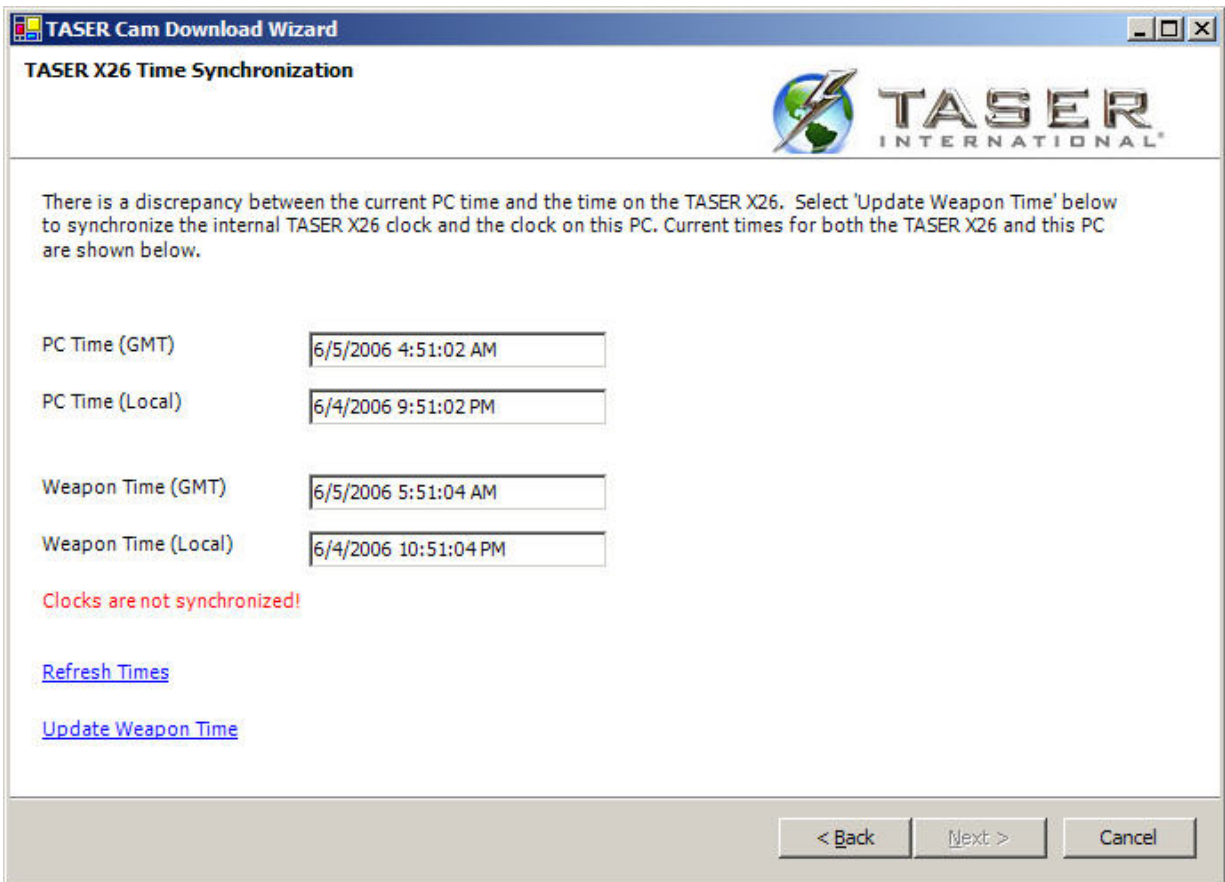
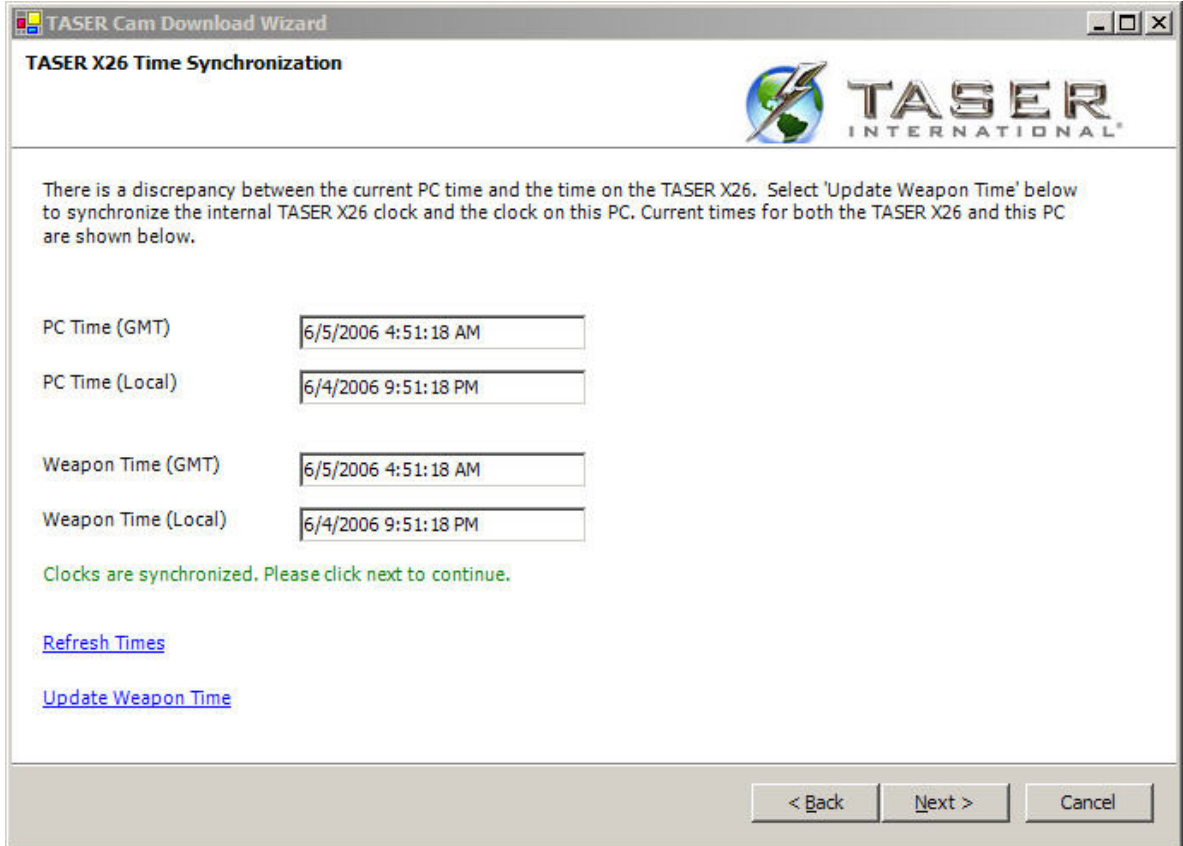

Figure 16
Figure 17
8. If a weapon is connected the software will verify that the time on the X26 is correctly set. If it is not correct you will be prompted to change the time (Figure 16). Verify your PC time is correct and click **Update Weapon Time** to set the time correctly (Figure 17).